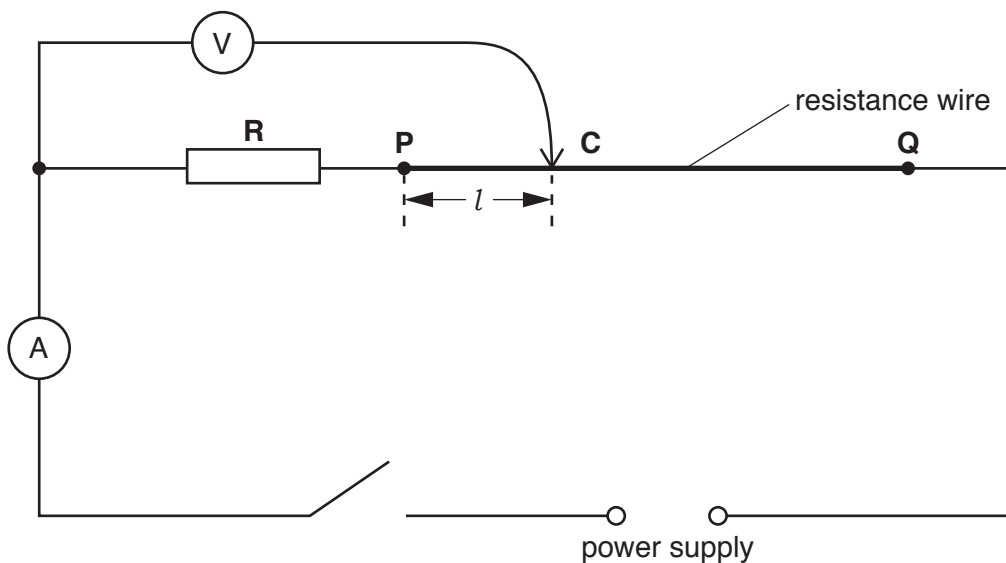

Fig. 3.1
- (ix) two terminals, e.g. crocodile clips, attached to the constantan wire at the ends of the metre rule so that connections can be made to the circuit shown in Fig. 3.1.
- 1 The circuit shown in Fig. 3.1 must be set up for the candidates.